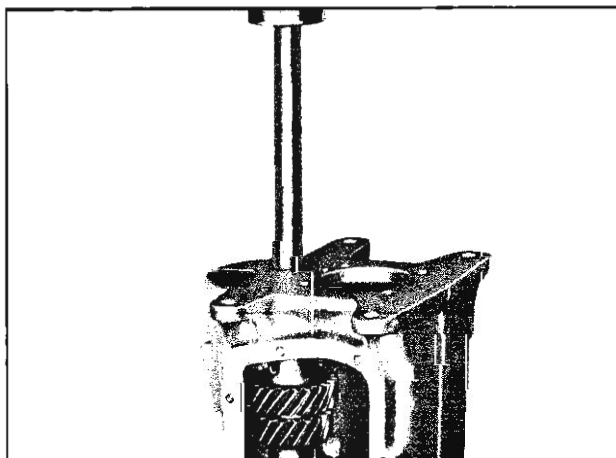

Fig. 11M—Removing Countershaft with J-5589
13. From the front of the case, press out the countershaft (fig. 11M) using Tool J-5589; then remove the countergear and both tapered washers.